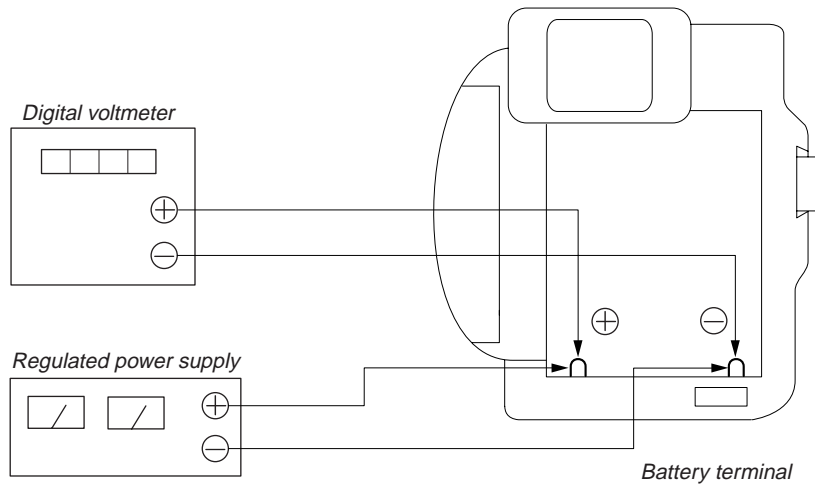

Fig. 5-1-6.
- 1) Connect the regulated power supply and the digital voltmeter to the battery terminal as shown in Fig. 5-1-6.